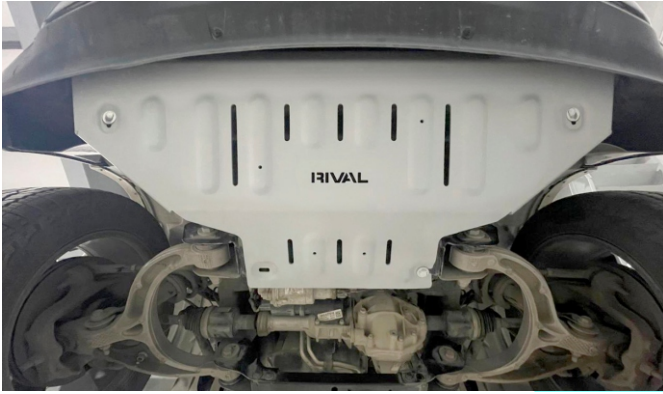

Fig. 12
12. Install remaining bolt M10x50 with flat washer M10 and spacer 8 mm (items C, F, I) into skid plate as shown in fig.12.